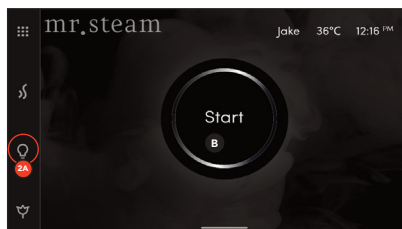

Figure 21
2. Turn on the ChromaSteamX fixture (**Figure 21**) by tapping the **LIGHT BULB** icon (**A**) to enter the Chroma user interface.